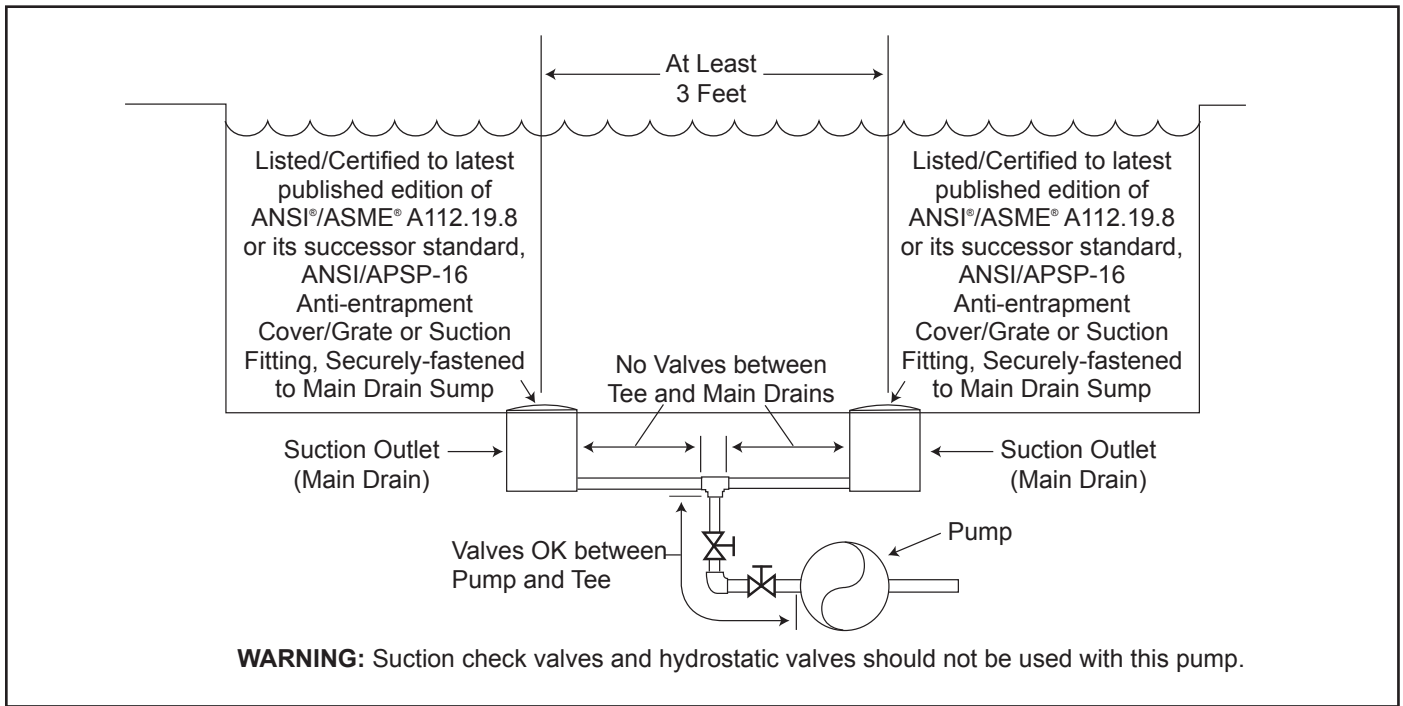

Figure 1. Number of Suction Outlets Per Pump
- **Number of Suction Outlets Per Pump** - Provide at least two (2) hydraulically-balanced main drains, with covers, as suction outlets for each circulating pump suction line. The centers of the main drains (suction outlets) on any one (1) suction line must be at least three (3) feet apart, center to center. See Figure 1.
- The system **must** be built to include at least two (2) suction outlets (drains) connected to the pump whenever the pump is running. However, if two (2) main drains run into a single suction line, the single suction line may be equipped with a valve that will shut off both main drains from the pump. The system shall be constructed such that it shall not allow for separate or independent shutoff or isolation of each drain. See Figure 1.
- More than one (1) pump can be connected to a single suction line as long as the requirements above are met.
- If 100% of the pump's flow comes from the main drain system, the maximum water velocity in the pump suction hydraulic system must be six (6) feet per second or less, even if one (1) main drain (suction outlet) is completely blocked. The flow through the remaining main drain(s) must comply with the latest version of ANSI/ASME A112.19.8, the standard for Suction Fittings For Use in Swimming Pools, Wading Pools, Spas, and Hot Tubs, or its successor standard, ANSI/APSP-16.
- **Fittings** - Fittings restrict flow; for best efficiency use fewest possible fittings (but at least two (2) suction outlets).